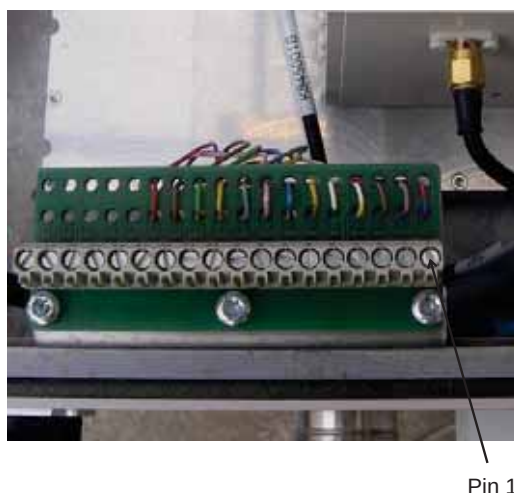

Figure 5-33: Dry Contact Alarms Internal Connector
3. Inside the repeater, route the cable and wiring towards the alarms connector – Figure 5-33.